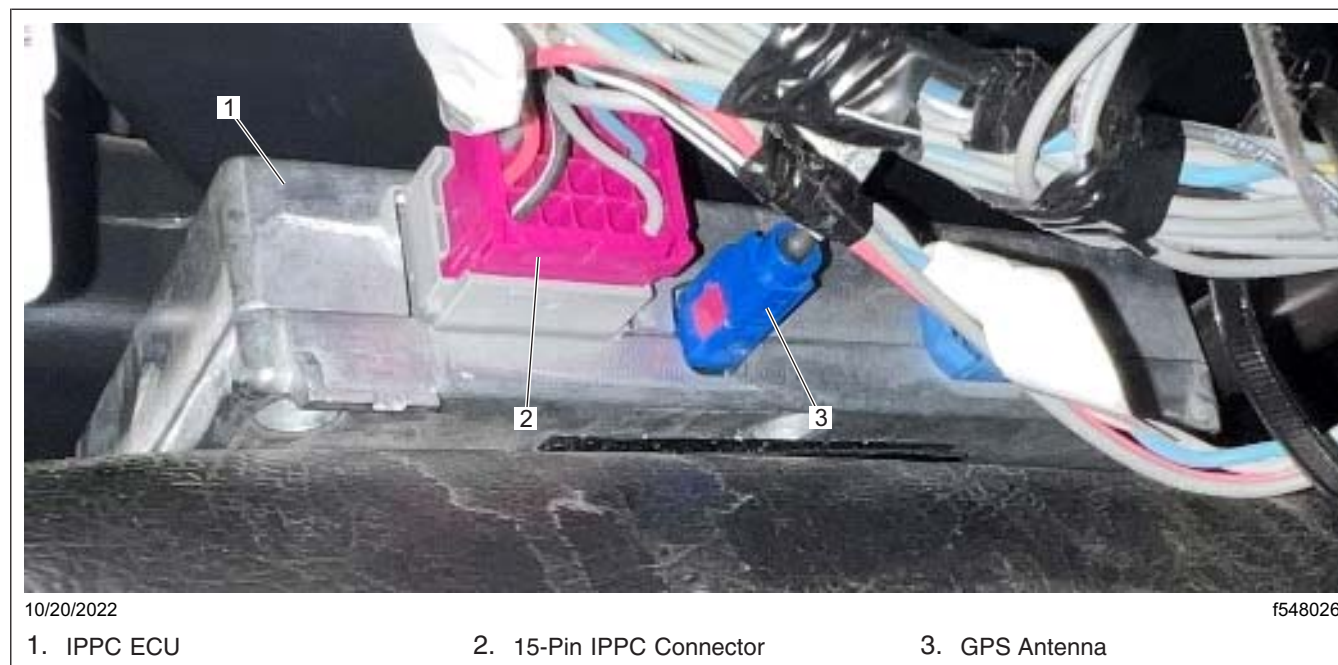

Fig. 27, IPPC ECU Connections
6. Connect the 15-pin IPPC connector and the GPS antenna connector to the IPPC ECU, as shown in Fig. 27.